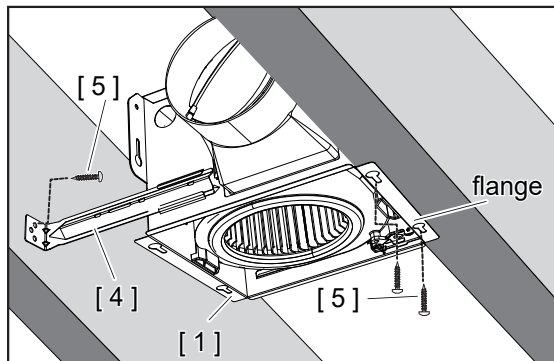

Fig 11
2. Position and hold the Fan Body [1] to the joist (truss or framing) as figure shows. Make sure the flange of housing is flush to the edge of joist. (Fig 11)
3. Secure the flange with Long Screws [5] as figure shows. (Fig 11)
4. Secure the Short Bracket [4] to joist with one Long Screw [5]. (Fig 11)